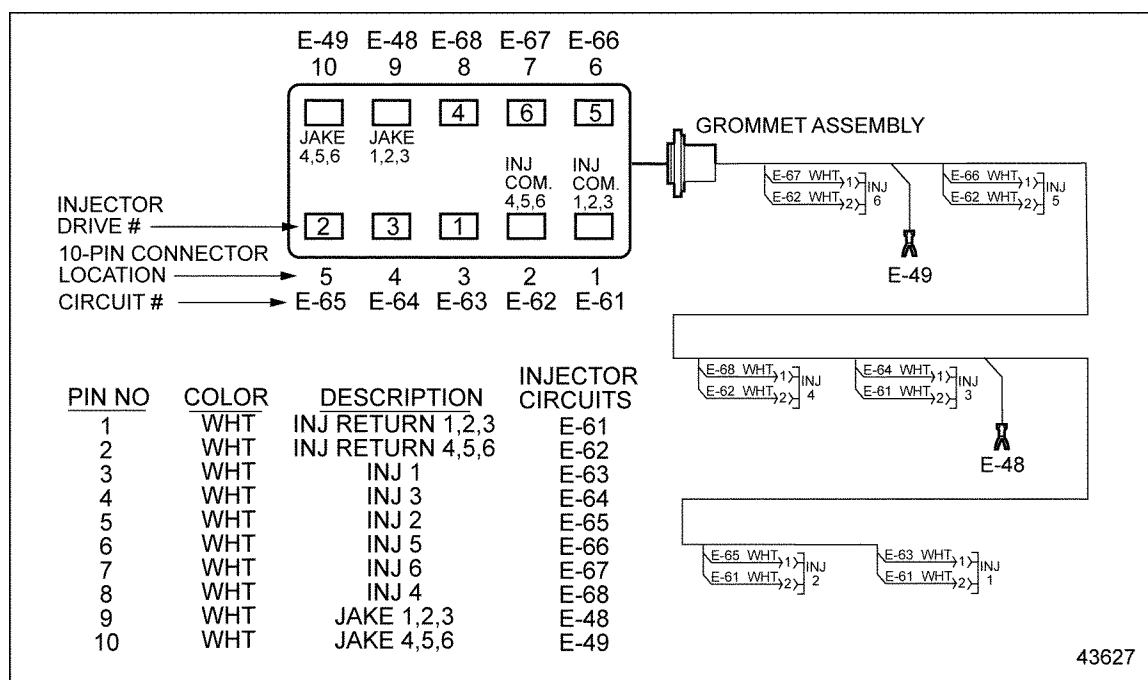

Figure 43-6 Injector Harness with Jake Brake
1. Disconnect the injector harness 10 pin connector and locate the terminals for each injector position. See Figure 43-6.